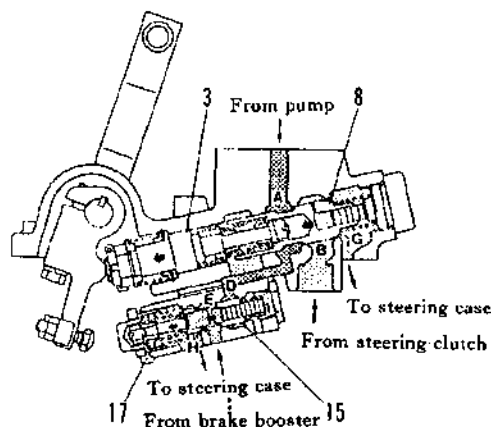

Fig. 2-76
(6) When the steering and brake valves are in neutral:
When the steering level is released, the tension of each spring pushes shaft (3), shaft (17), brake valve (15) and steering valve (8) back in the direction of the arrow, then steering valve (8) closes the passage between ports A and B and opens the passage around port G so that the oil in the steering clutch is drained to the steering case via port G. Brake valve (15) closes the passage between ports D and E and opens the passage between ports E and H so that the oil in the brake booster is drained to the steering case via port H. (as shown in Fig. 2-76).